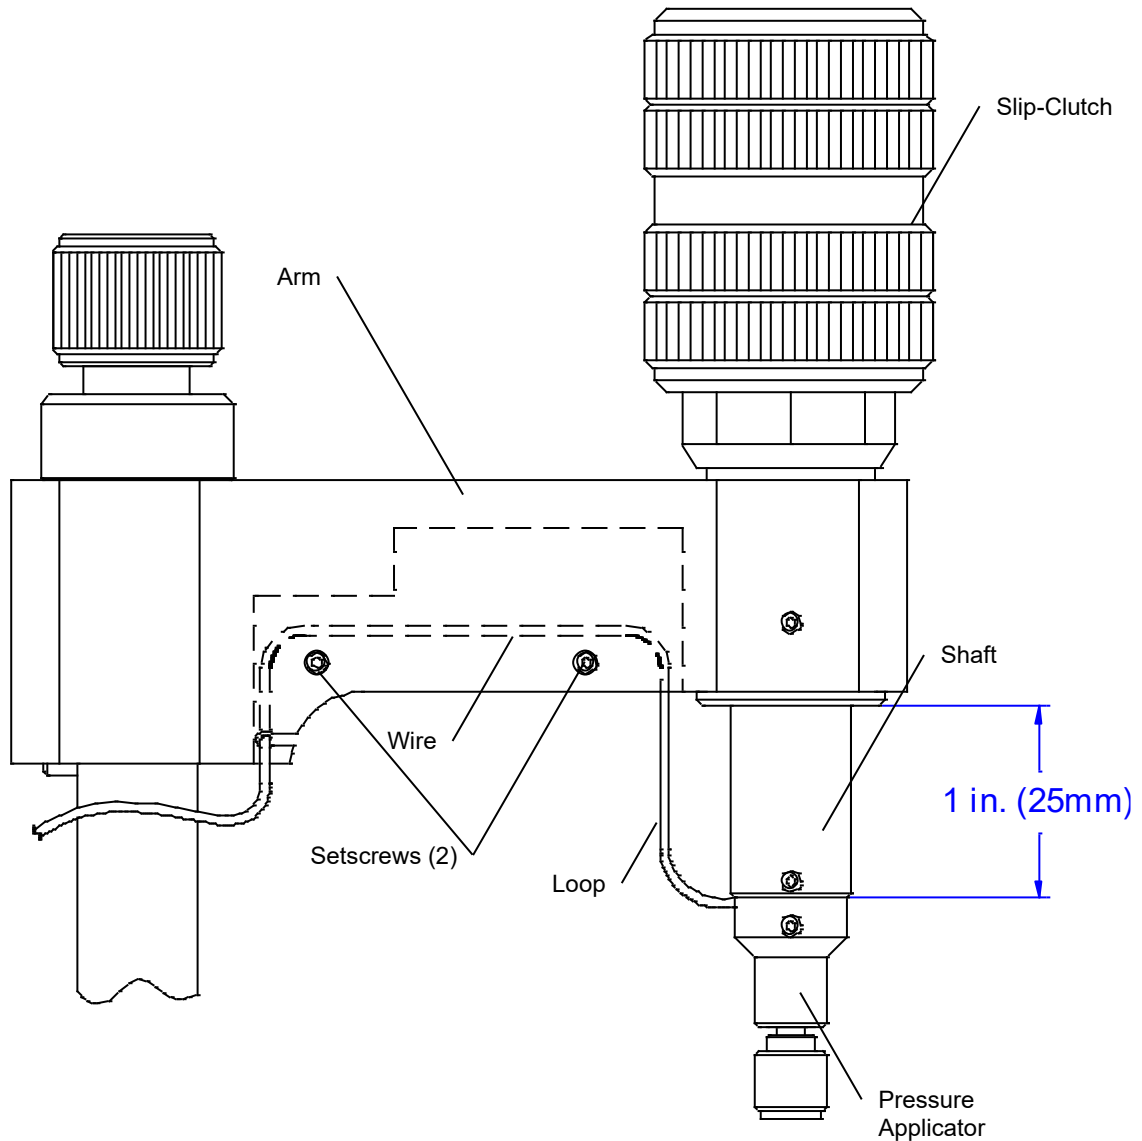

Figure 27 • Routing the wire
- Gently push the wire into the recess in the bottom of the arm, leaving a loop near the pressure applicator, as shown in Figure 27.